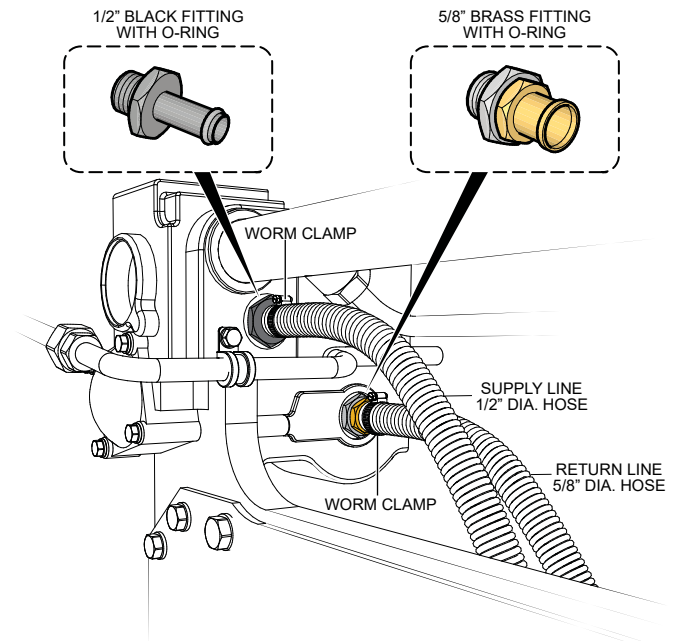

Figure 10. Final Installation (Correct Location)
1. Insert the 1/2" **BLACK** barb hose fitting (supply line) into the **upper** left-side of the engine block as shown in Figure 10.
3. Next, insert the **BRASS** 5/8" barb hose fitting (return line) into the **bottom** right-side of the engine block as referenced in Figure 10.